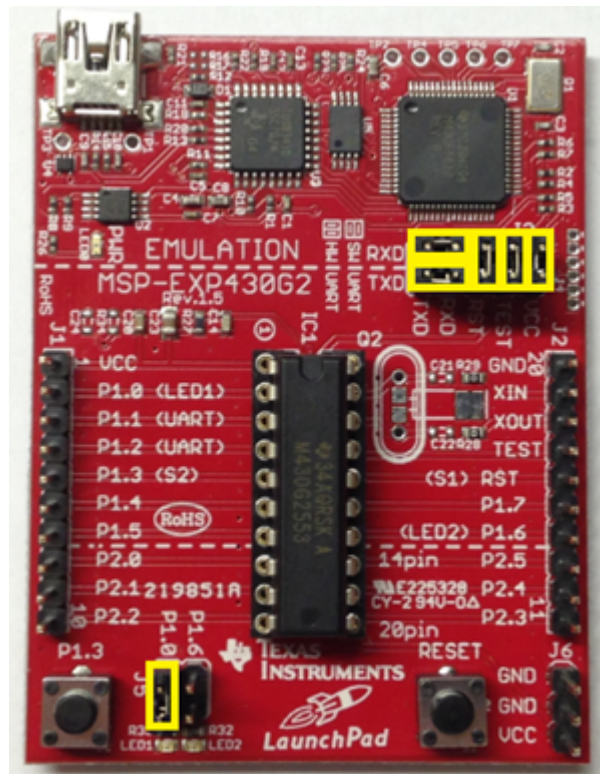

Figure 3. Proper Jumper Configuration on the LaunchPad
1. With the LaunchPad unplugged, configure the headers on the LaunchPad to be in HW UART mode by attaching jumpers on the headers indicated by the yellow boxes in Figure 3.